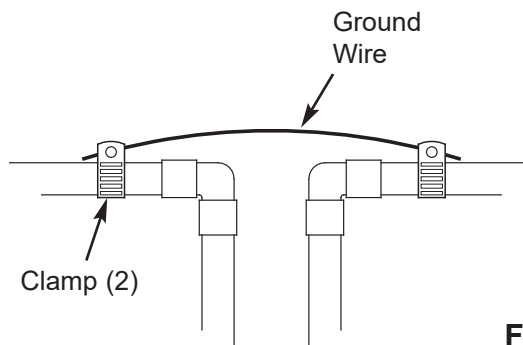

FIG. 7
- Install a #4 copper wire across the removed section of main water pipe, securely clamping at both ends (See Figure 7). Parts not included.